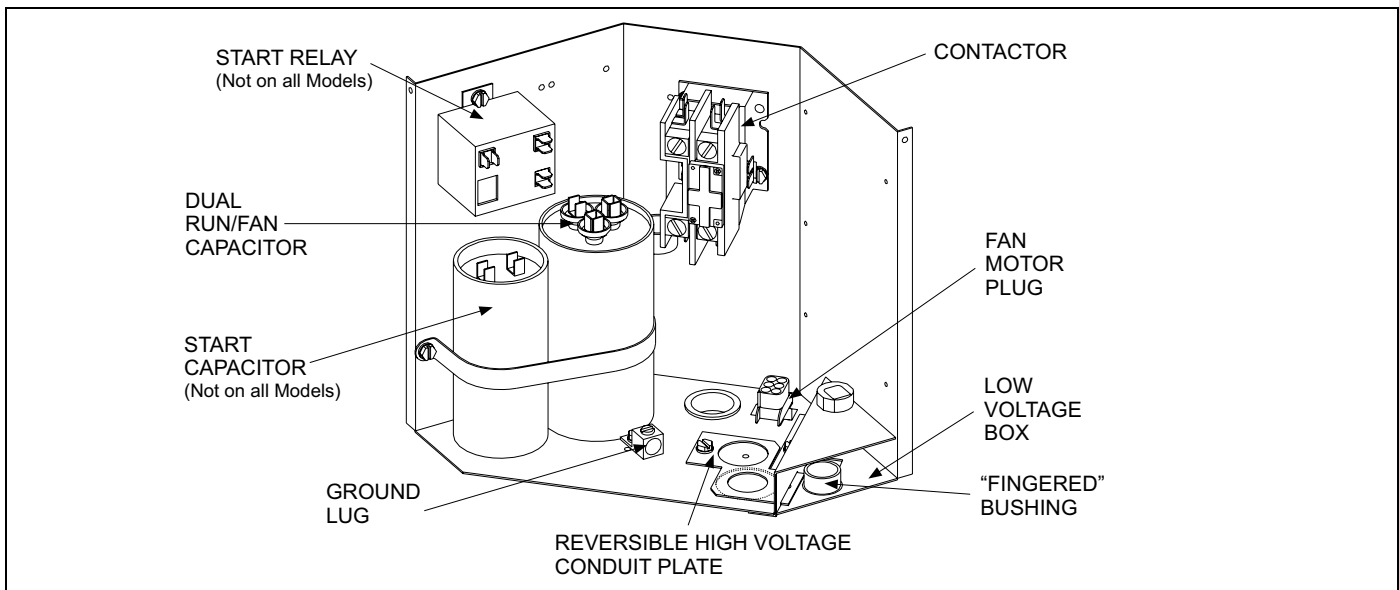

FIGURE 6: Outdoor Unit Control Box - Single Phase
1. Route low voltage wiring into bottom of control box as shown in Figure 6 or 7. Make low voltage wiring connections inside the low voltage box per Figure 8.